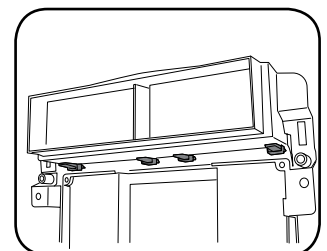

Fig. 1.10
10. Release the four clips at the top of the bezel to remove the vents. (Fig. 1.10)